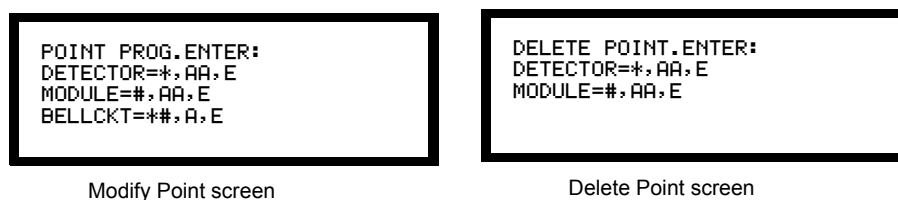

Figure 64 Modify and Delete Point Selection Screen
- From the Program Change screen (Figure 53 on page 71), press the **2** key (Point) to display the Point Programming Entry screen (Figure 64).
- From the Point Programming screen, press the **1** key to display the Modify Point Selection screen or press the **2** key to display the Delete Point Selection screen (Figure 64).